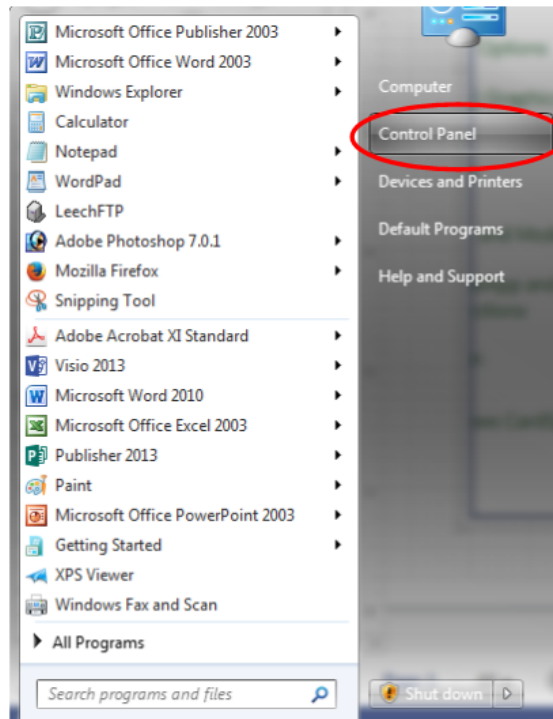

Figure 240: Start Menu - Control Panel
1. Access the Control Panel from the Start Menu. The Start Menu is usually the first icon on the bottom of the PC screen--a circle with four windows in it. Click on Control Panel (Figure 240).